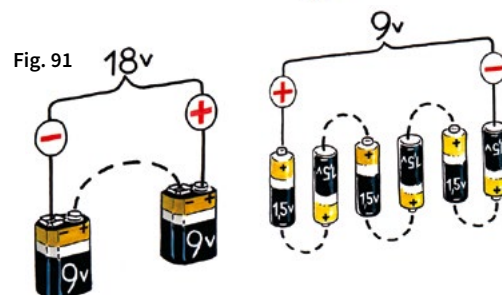

Fig. 91
1. In experiment No. 72 the inside of a battery was described. You may remember that it consists of six cells in which the carbon rods function as positive electrodes, whereas the zinc cans and the electrolyte (sal ammoniac solution) function as negative electrodes. The manganese oxide is a depolariser. The above mentioned cells are connected in a series. The voltage of each individual element is 1.5 V, hence the whole battery voltage is $6 \times 1.5 = 9 \text{ V}$ (see fig. 91 left).
2. If two batteries are connected in a series, as shown in fig. 91 right, the voltage of the new battery will be $2 \times 9 = 18 \text{ V}$.